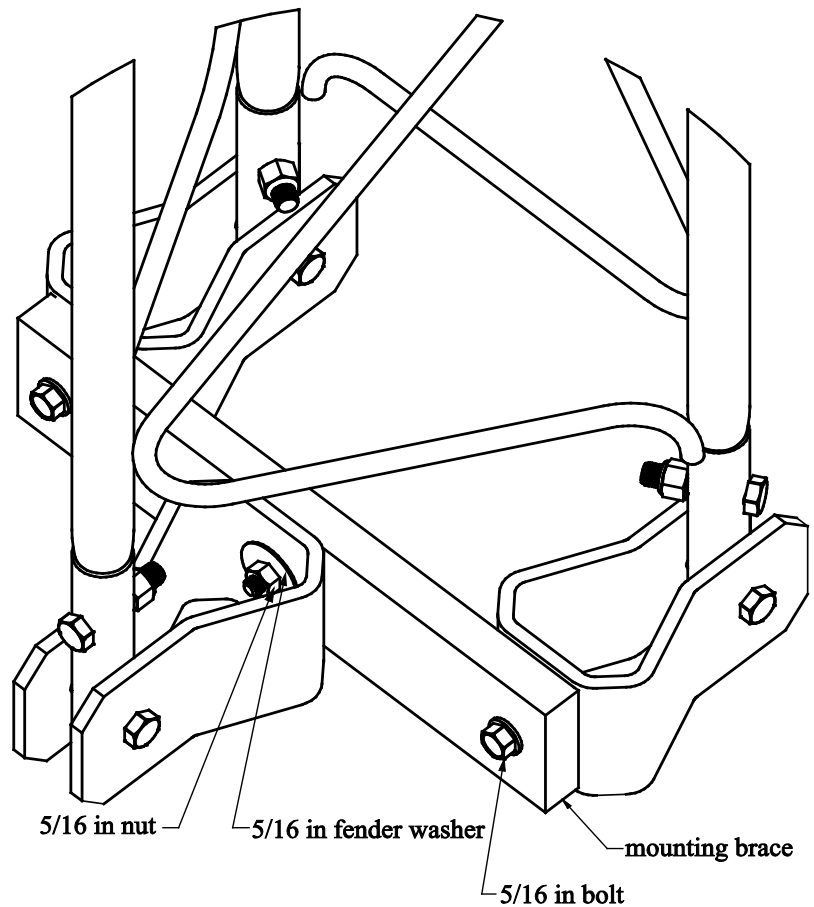

FIGURE 7-5. UT10 Mounting Brace Removal
2. Remove the three 5/16 inch bolts, nuts, and fender washers from the UT10 mounting brace (FIGURE 7-5).